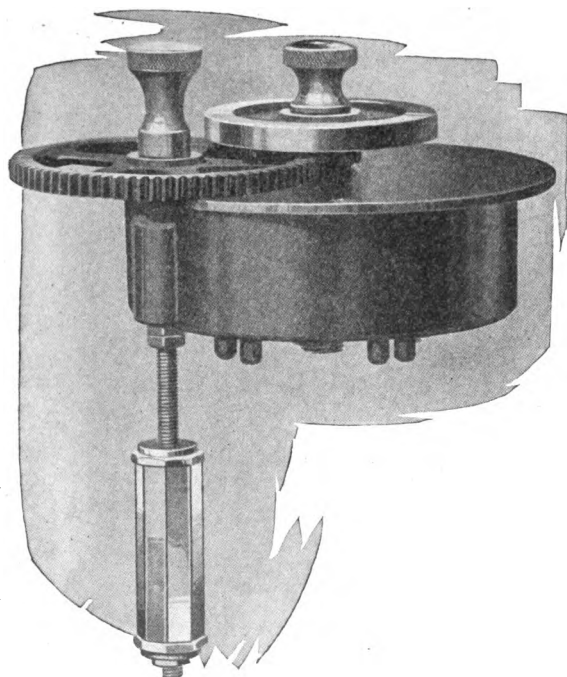
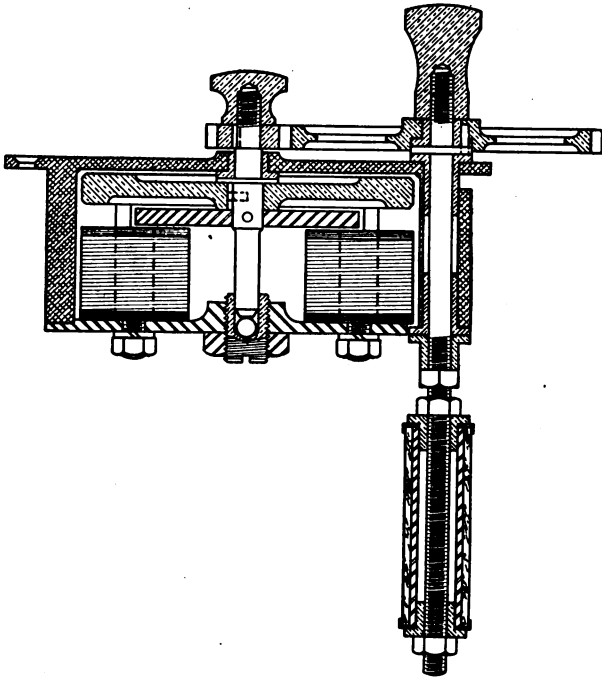

Fig. 57e. The Pressure-Time Synchronizer
Fig. 57f. Section of the Pressure-Time Synchronizer
*Pressure-Time Synchronizer.* The function of the pressure-time synchronizer, Fig. 57e, is to rotate the eight-sided mirror at a speed that will always bear an exact ratio to the speed of the engine. This instrument consists of a mechanism attached to the engine shaft and a synchronizer and rotating mirror located in the motor box. A sectional view is shown in Fig. 57f. The